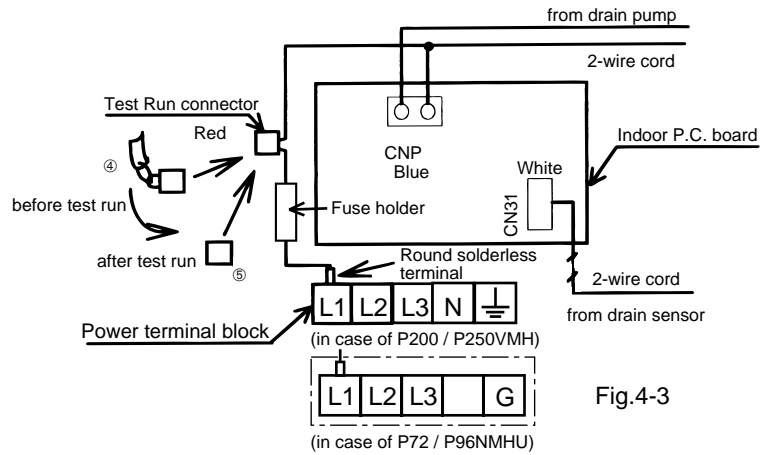

Fig.4-3
2. Connecting the pump wires to the control box of the indoor unit (Fig. 4-3)
- a) Connect the blue connector of the 2-wire cord to CNP on the indoor P.C. board inside the control box, and fix the fuse holder to the specified position (Photo 4-4) inside the control box using two PTT screws ⑧. The round solderless terminal must be connected to [L1] of the power terminal block.